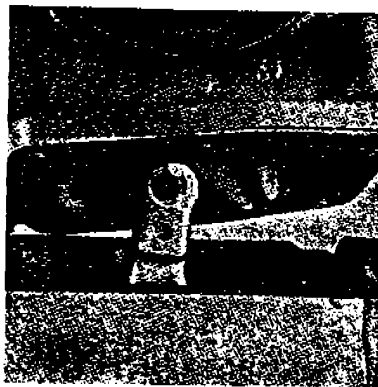

Figure 3 Cam actuator arm and cam follower
6. Position control housing (57) so that rod link (72) slips into slot in pump cam arm. Place a clean shop rag around the cam arm and insert clevis pin (73) with one new E-ring (71) attached in counterbored side of cam arm and through rod link (72). Install the 2nd new E-ring on clevis pin (73). See fig. 3.
7. Install new O-ring (70) in seat on pump housing using a thin coat of grease to hold it in place.
8. Install control assembly to pump using four short and two long hex bolts (items 28 & 38) and six lock washers, *making sure the slot in the valve sleeve assembly (22) is positioned over the pin on the cam lever assembly and that the O-ring (70) is properly seated.* Torque 6 hex bolts to 132 lbs.